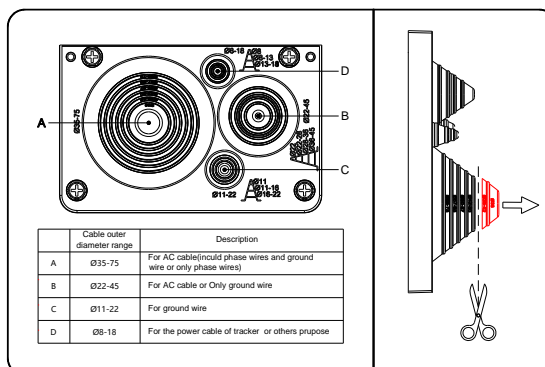

FIG 5-5 Functional Zones of the Sealing Plate and Sealing Ring Cutting
Step 4: Cut the corresponding tower-shaped sealing ring on the sealing plate according to the cable specifications, referring to FIG 5-5.